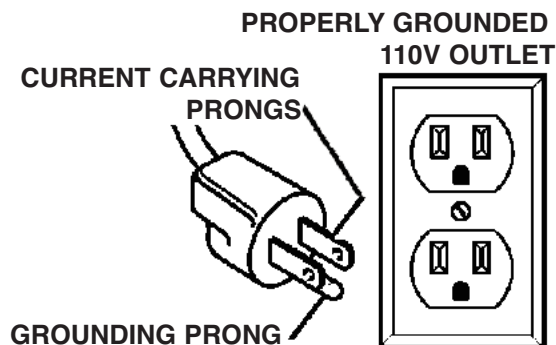

Figure 1B
- Power cord with 110V- 15 Amp. plug, as shown in Fig.1B.